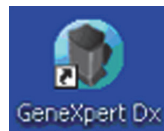

Figure 2-21. GeneXpert Dx System Shortcut Icon
- On the Windows desktop, double-click the **GeneXpert Dx** icon (see Figure 2-21).